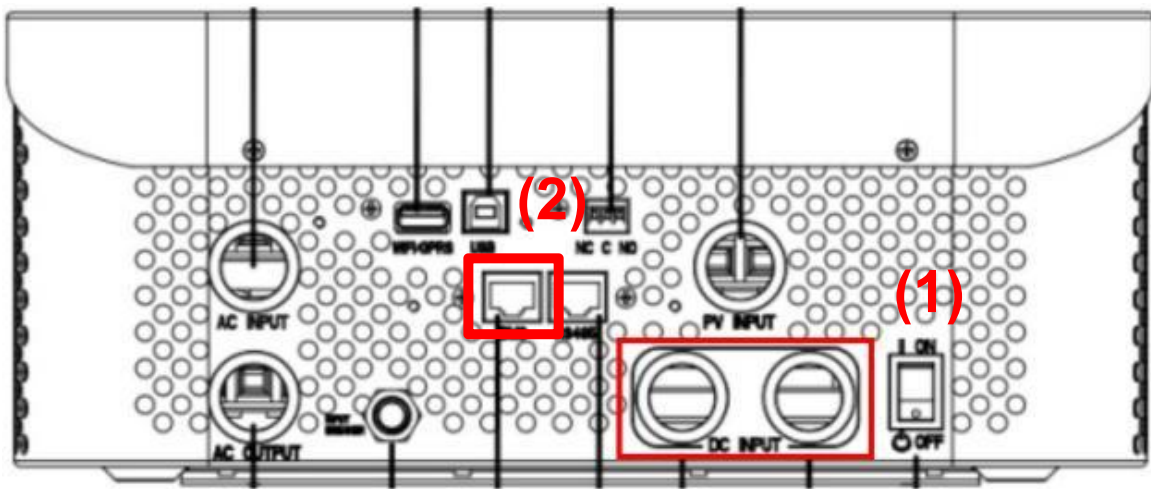

Figure 1.1 Growatt Battery Connector
1. Connect the power cables between inverter and battery or the Busbars. See the (1) on Figure 1.1 to check the position of Growatt Battery Connectors.
2. A standard ethernet cable can be used for the communication. Plug in the battery end into the CAN port of the Pytes battery(Check Page 2) and plug in the inverter end into Growatt BMS Port as shown (2) on the Figure 1.1.